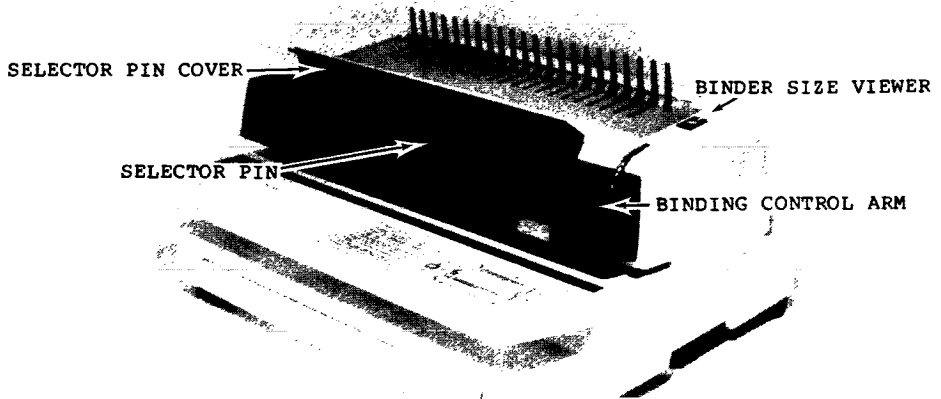

Figure 4.1
5. If the left and/or right hand edge of your test sheet partially covers one of the Solid White Rectangles, raise the Selector Pin Cover and pull out the Selector Pin corresponding to the Solid White Rectangle that is partially covered by your test sheet. This will disengage the punch directly behind the Solid White Rectangle on the Punch Alignment Scale and prevent the punching of a partial hole on the edge of your test sheet. (See Figure 4.1).